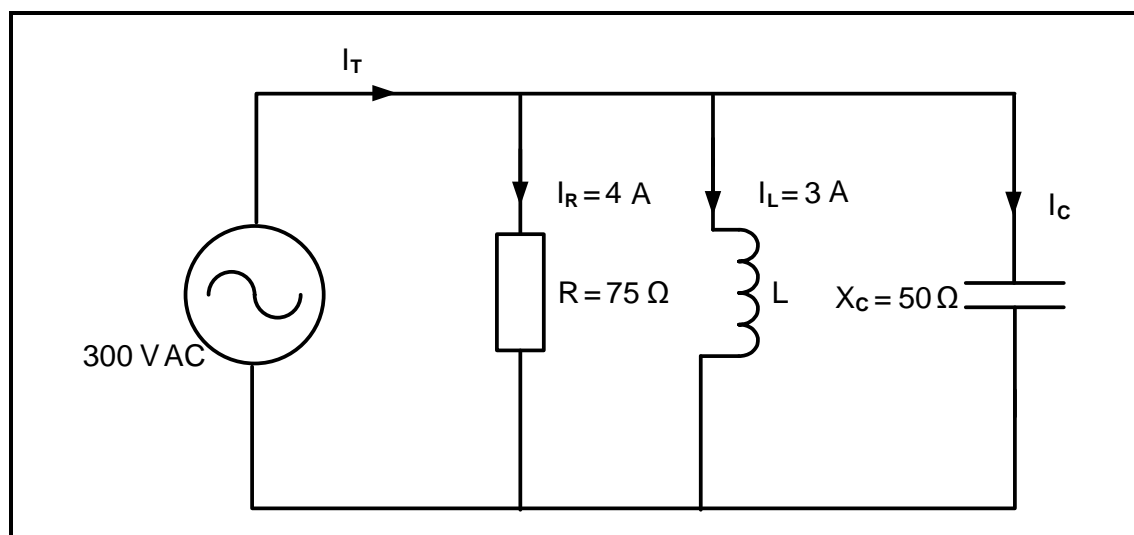

FIGURE 2.4: PARALLEL RLC CIRCUIT
- 2.4 FIGURE 2.4 below shows a parallel RLC circuit that consists of a $75 \, \Omega$ resistor, an inductor with unknown inductance value and a capacitor with a capacitive reactance of $50 \, \Omega$, all connected across $300 \, \text{V AC}$ supply voltage. The current flowing through the resistor is $4 \, \text{A}$ and the current flowing through the inductor is $3 \, \text{A}$. Answer the questions that follow.